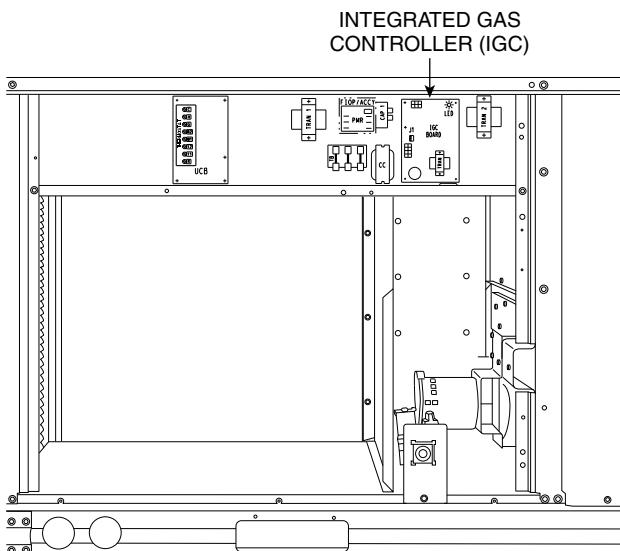
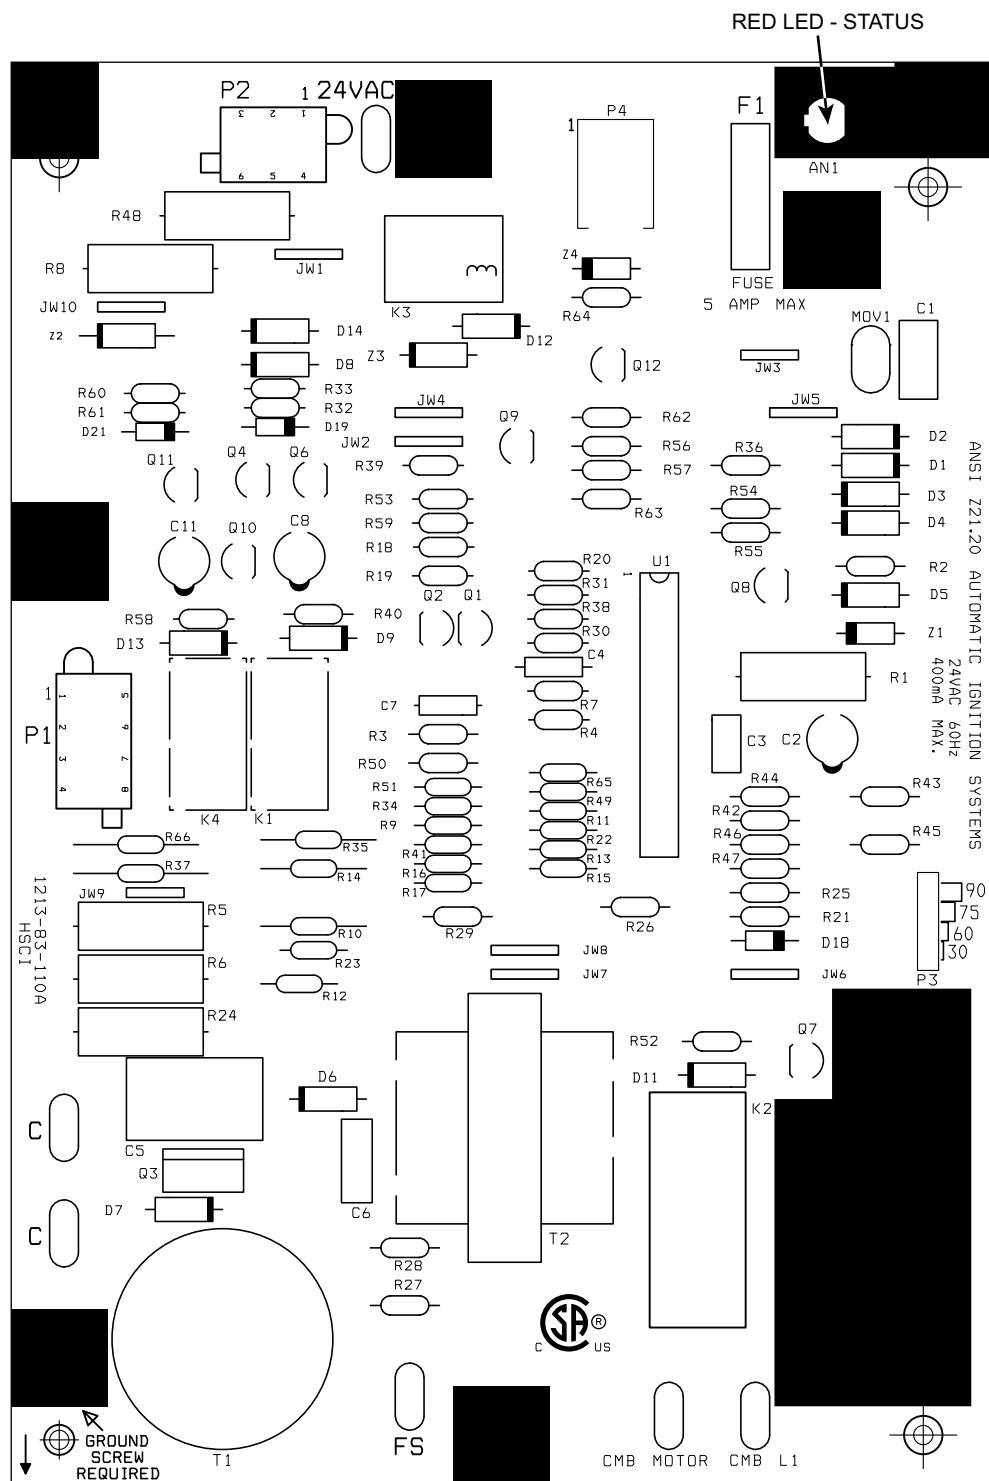

Fig. 54 — Unit Control Box/IGC Location
Fig. 57 — Integrated Gas Control (IGC) Board
8. Remove igniter wires and sensor wires at the Integrated Gas Unit Controller (IGC). (See Fig. 54.)
control box (see Fig. 54). The IGC contains a self-diagnostic LED (light-emitting diode). A single LED (see Fig. 57) on the IGC provides a visual display of operational or sequential problems when the power supply is uninterrupted. When a break in power occurs, the IGC will be reset (resulting in a loss of fault history) and the indoor (evaporator) fan ON/OFF times will be reset. The LED error code can be observed through the viewport. During servicing, refer to the label on the control box cover or Table 11 for an explanation of LED error code descriptions.